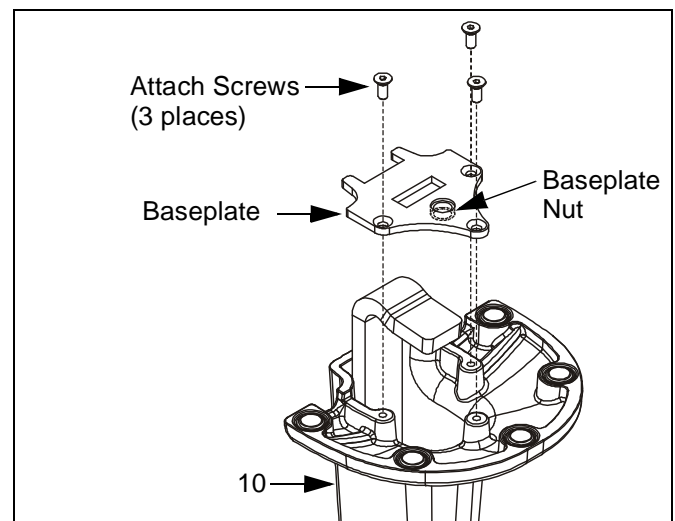

Figure 6: Baseplate
- Using 2.5mm hex key, remove and retain baseplate and three attach screws from bottom of mount (10) (See Figure 6).
3. Using 2.5mm hex key, re-install baseplate with three retained attach screws. Ensure baseplate nut faces interior of mount (See Figure 6). Tighten securely.